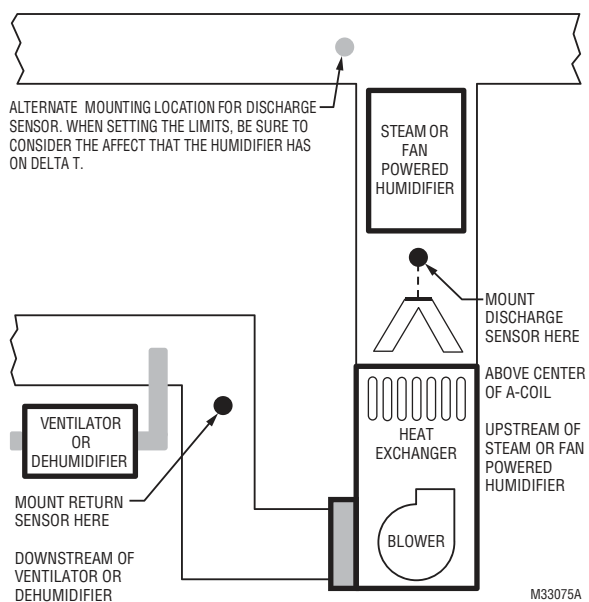

Fig. 11.
- 2.** When possible, mount the Discharge Air Temperature Sensor upstream of a Steam Humidifier, a Fan Powered Humidifier or a Dehumidifier that is ducted to the supply. See Fig. 11–12.
See Fig. 11. When setting the Delta T Limits (see “Set Delta T Limits” on page 87), be sure to consider the affect that the humidifier has on Delta T.